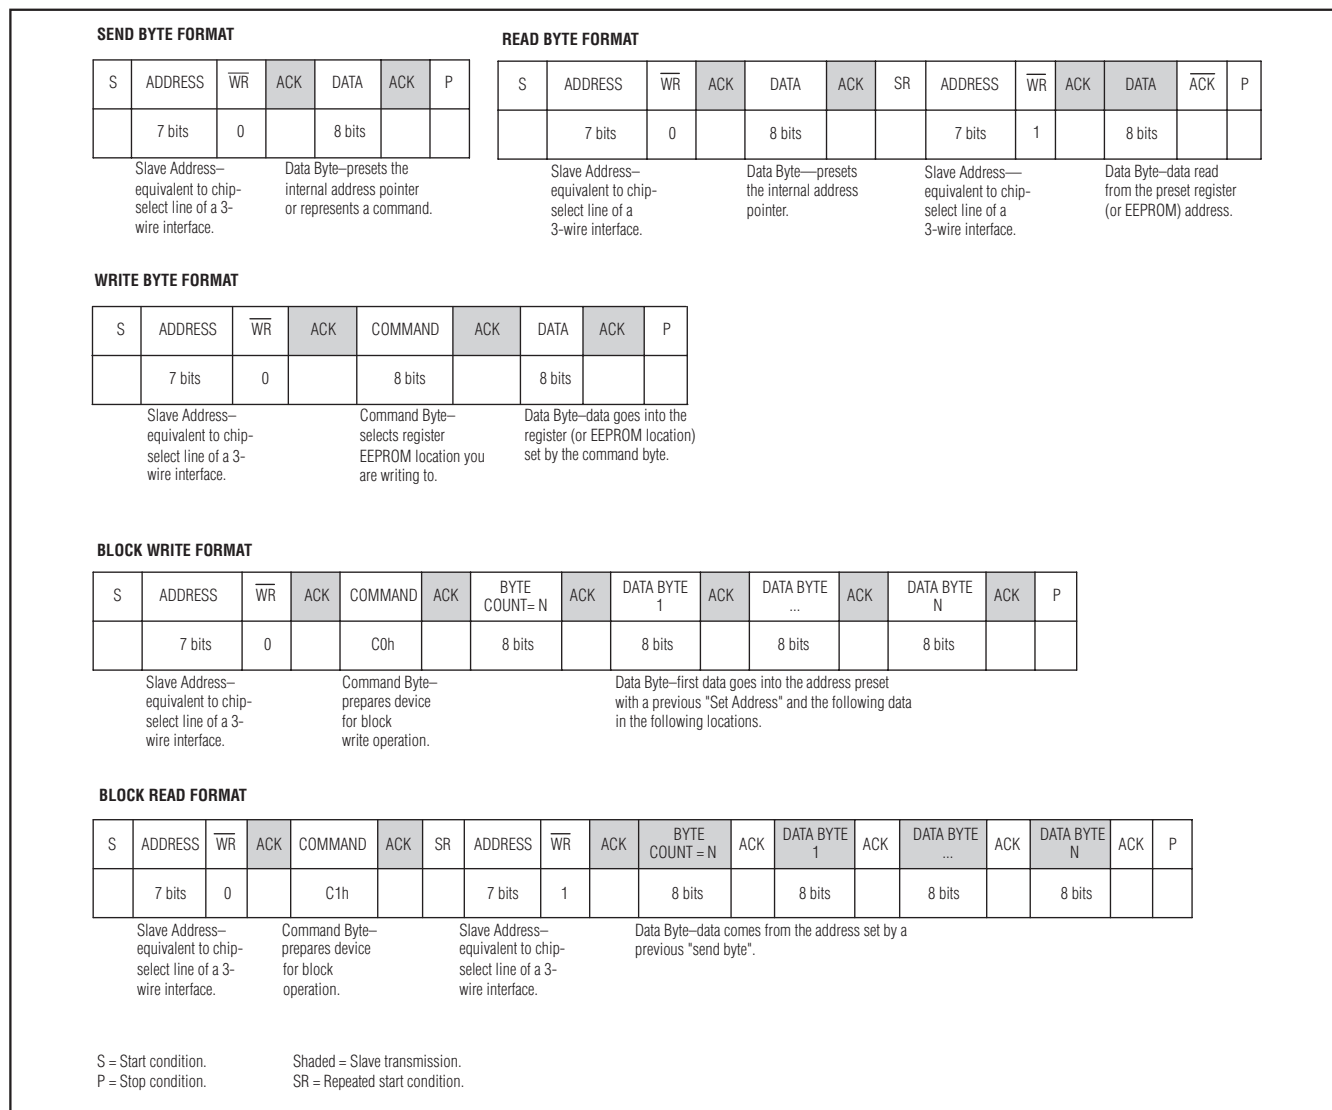

Figure 8. SMBus/I2C Protocols
A REPEATED START (SR) condition may indicate a change of data direction on the bus. Such a change occurs when a command word is required to initiate a read operation (see Figure 8). SR may also be used when the bus master is writing to several I2C devices and does not want to relinquish control of the bus. The MAX6889/MAX6890/MAX6891 serial interface supports continuous write operations with or without an SR condition separating them. Continuous read operations require SR conditions because of the change in direction of data flow.
The send byte protocol allows the master device to send one byte of data to the slave device (see Figure 8). The send byte presets a register pointer address for a subsequent read or write. The slave sends a NACK instead of an ACK if the master tries to send an address that is not allowed or if the device is writing data to EEPROM or is booting. If the master sends C0h, the data is ACK. This could be the start of the block write protocol, and the slave expects the following data bytes. If the master sends a Stop condition, the internal address pointer does not change. If the master sends C1h, this signifies that the block read protocol is expected, and a repeated Start condition should follow. The device reboots if the master sends C4h. The send byte procedure follows:
The write byte protocol allows the master device to write a single byte in the register bank or in the EEPROM (configuration or user) (see Figure 8). The Write Byte procedure follows:
The block write protocol allows the master device to write a block of data (1 to 16 bytes) to the EEPROM or to the register bank (see Figure 8). The destination address must already be set by the send byte protocol and the command code must be C0h. If the number of bytes to be written causes the address pointer to exceed 2Fh for the configuration register or B7h for the configuration EEPROM, the address pointer stops incrementing, overwriting the last memory address with the remaining bytes of data. Only the last data byte sent is stored in B7h (as 2Fh is read only and a write causes no change in the content). If the number of bytes to be written exceeds the address pointer 7Fh for the user EEPROM, the address pointer stops incrementing and continues writing exceeding data to the last address. Only the last data is actually written to 7Fh. The block write procedure follows:
The read byte protocol allows the master device to read the register or an EEPROM location (user or configuration) content of the MAX6889/MAX6890/MAX6891 (see Figure 8). The read byte procedure follows:
The block read protocol allows the master device to read a block of 16 bytes from the EEPROM or register bank (see Figure 8). Read fewer than 16 bytes of data by issuing an early STOP condition from the master, or by generating a NACK with the master. Previous actions through the serial interface predetermines the first source address. It is suggested to use a send byte protocol, before the block read, to set the initial read address. The block read protocol is initiated with a command code of C1h. The block read procedure follows: